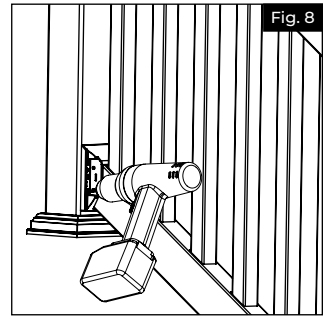

Fig. 8
- Ensure bracket is centered to post. Then, using $\frac{1}{8}$ " drill bit, pre-drill first bottom bracket screw hole through bottom bracket hole and post (use the four outside corner holes) (Fig. 8).